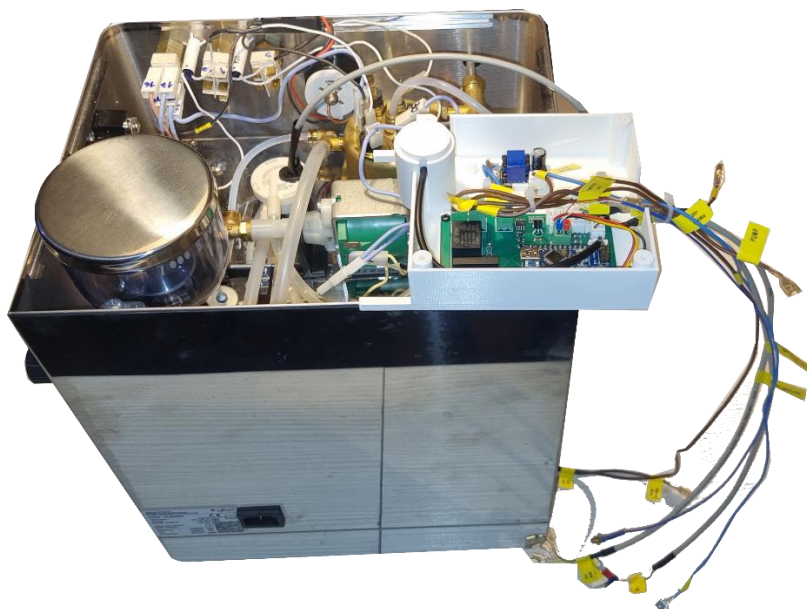

Fig. 6.7
- Now you need to take the case and move it on top of the machine in one corner to make connections with the display cable, flow meter cable and k-type sensor(fig.6.7)